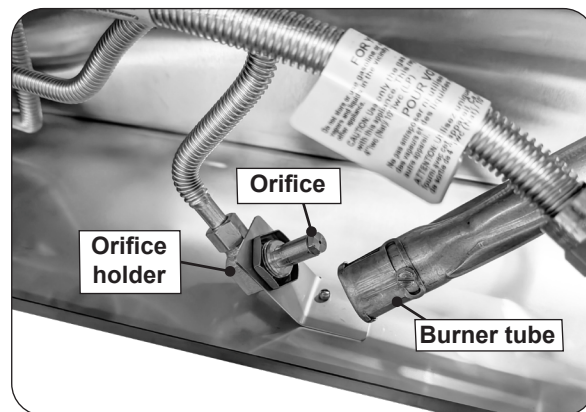

Fig. 40-2 Change orifice detail
5. Using a $\frac{3}{8}$ " socket nut driver, remove the orifice from the orifice holder (see Fig. 40-2) and check the number stamped on the orifice face.
7. Replace the side burner tube (Fig. 40-2) over the orifice, aligning the burner over the electrode, taking care not to detach it from the wire.